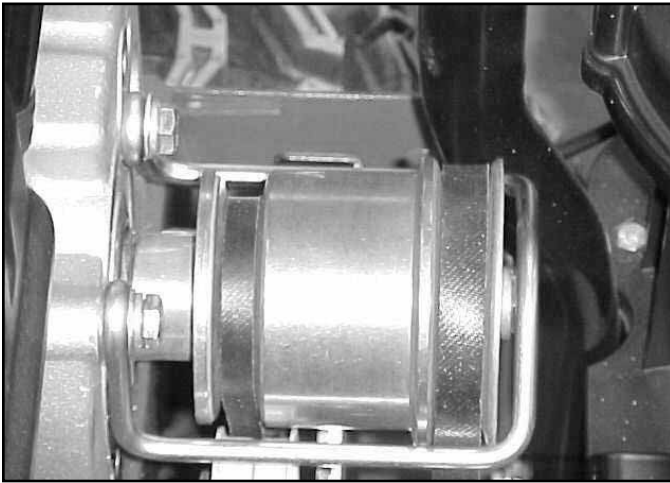

Fig 075
3. Remove the belt guide around the crankshaft pulley (Fig. 075). Be careful to avoid bending the guide.